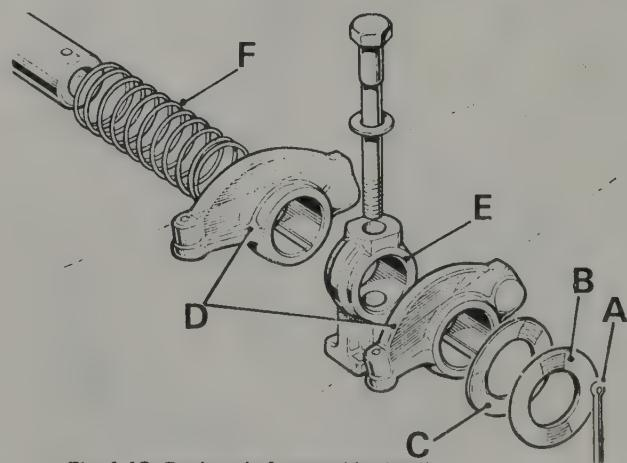

Fig. 1.13. Rocker shaft assembly detail
2 Remove the split pin from one end of the rocker shaft and slide off the components carefully retaining them in the correct order of sequence for reassembly, as follows: (A) split pin; (B) plain washer; (C) wave washer; (D) rocker arm; (E) brackets; (F) springs. (Fig. 1.13).